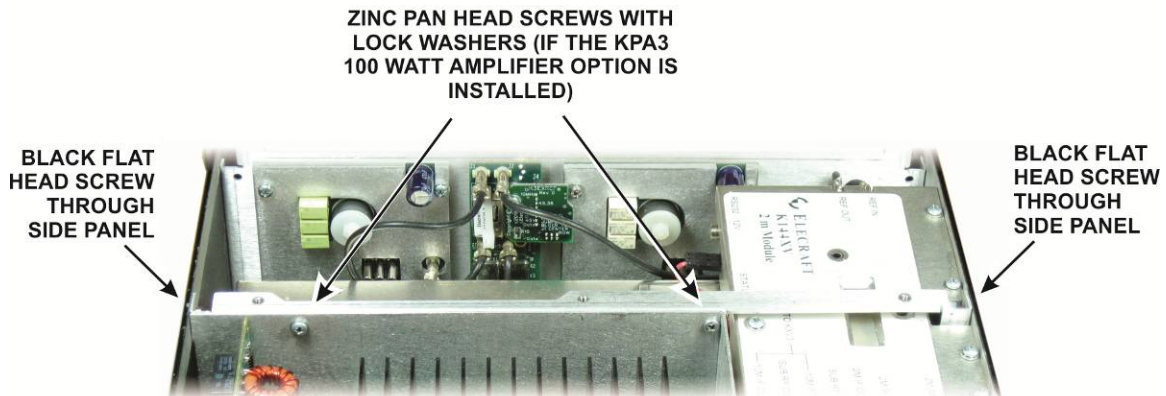

Figure 4. Removing the Chassis Stiffener.
- Remove the stiffener as shown in Figure 4. It will be held in place by a flat head screw through each side panel. If the KPA3 100 watt amplifier option is installed, two screws securing it to the KPA3 shield. Some older K3s may use nuts and lock washers on the screws securing the stiffener to the KPA3 shield instead of PEM nuts.
If you removed the chassis stiffener (see Figure 4 on page 9) replace it now. If you have the KPA3 100-watt option installed, be sure to replace the two screws that attach the stiffener to the KPA3 shield.